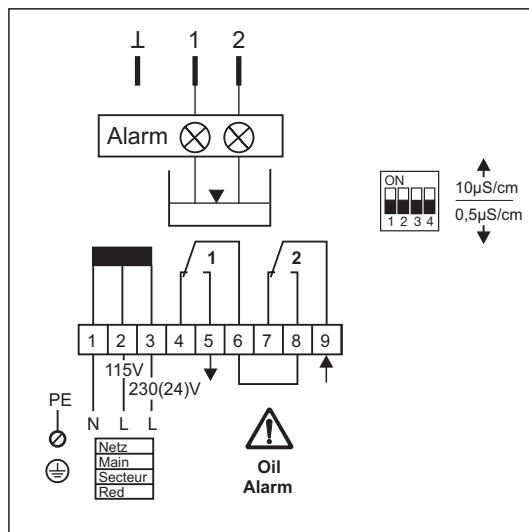

Fig. 8
2. Please check that the oil detector & alarm is wired in accordance with the wiring diagram (**Fig. 8** page 16) and switch on mains voltage.